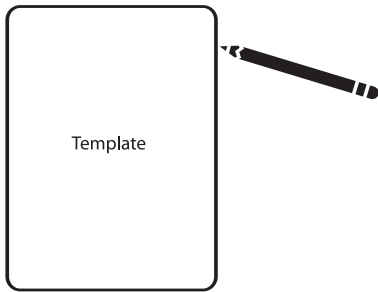

Figure 1
3. With these measurement requirements in mind, place the template against the inside edge of one of the studs. (Do not "center" the template if your studs are wider than  $14\frac{1}{2}$ "– $15\frac{1}{2}$ ".) Use a level to make certain the template is straight and plumb. The outside edge of the template will be your exact cutout size. [Figure 1]